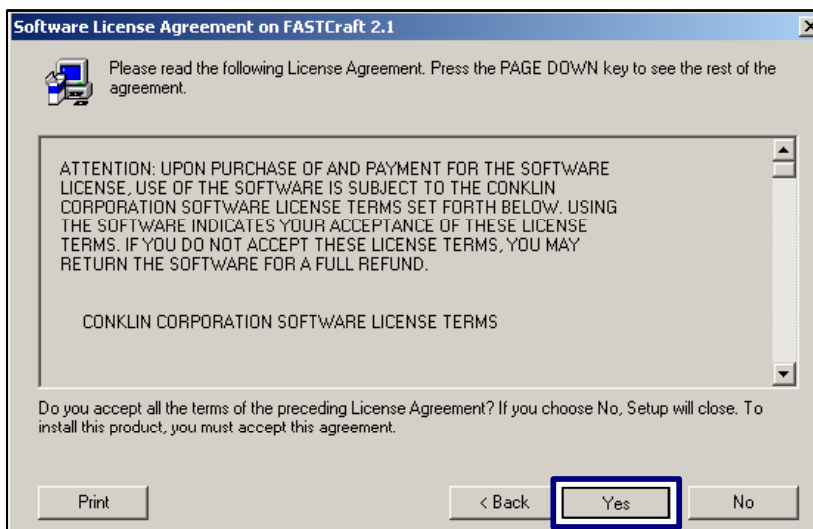

Figure 3 – ‘Software License Agreement’ window
*The **Software License Agreement** window (Figure 3) appears.*